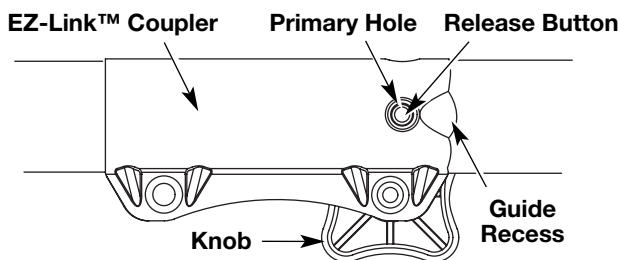
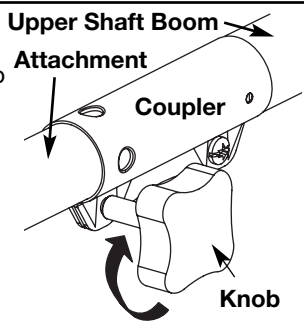

Fig. 3
Fig. 4
CAUTION: Lock the release button in the primary hole (Fig. 3) and securely tighten the knob before operating this unit.
3. While firmly holding the attachment, push it straight into the coupler until the release button (Fig. 3) snaps into the primary hole (Fig. 3). The primary hole is on the opposite side of the coupler from the knob (Fig. 3). Align the release button with the Guide Recess (Fig. 3) to help installation.
4. Turn the knob clockwise to tighten (Fig. 4).
CAUTION: Before operating this unit, be sure that the release button is fully snapped into the primary hole (Fig. 3), and that the knob (Fig. 4) is securely tightened.
3. Press and hold the release button (Fig. 3).
4. While firmly holding the upper shaft boom (Fig. 4), pull the attachment out of the coupler.